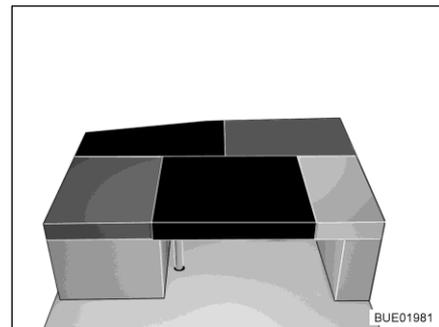

Fig. 171 After conversion
- Place the rectangular additional cushion on the table (between the seat cushion and the back cushion of the lateral seat, see Fig. 171).